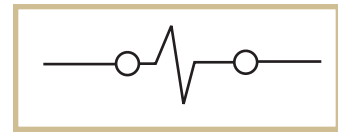

FIGURE A3—Use this schematic to answer **Question 16**.
16. What is the meaning of the symbol shown in **Figure A3**?